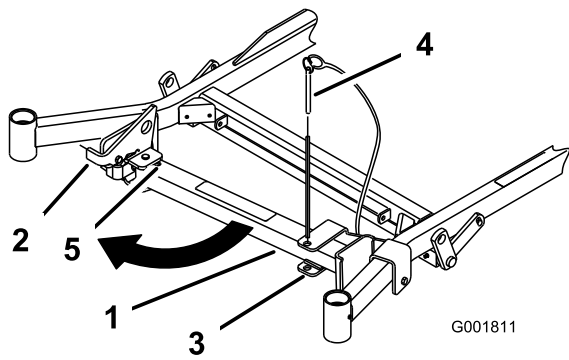
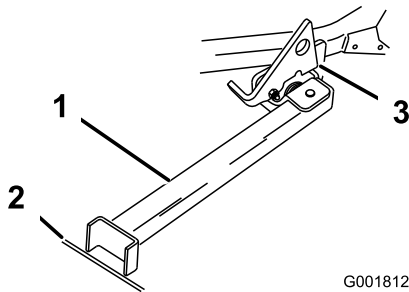

Figure 26
Figure 27
2. Remove the bracket pin (Figure 26).
3. Raise the latch. Swing the stand foot out front and slide stand toward machine, into the bottom of slot (Figure 26 and Figure 27).
4. Set the foot of stand on the ground and rest the latch on the pivot tab (Figure 27).
Note: For best results, place the foot of stand into seams in sidewalks or into the turf (Figure 27).
6. Drive onto the stand. Stop when the latch drops over the tab into the locked position (Figure 27). Once onto the stand, engage the parking brake and turn off the engine.
5. Return the stand to its rest position (Figure 26).